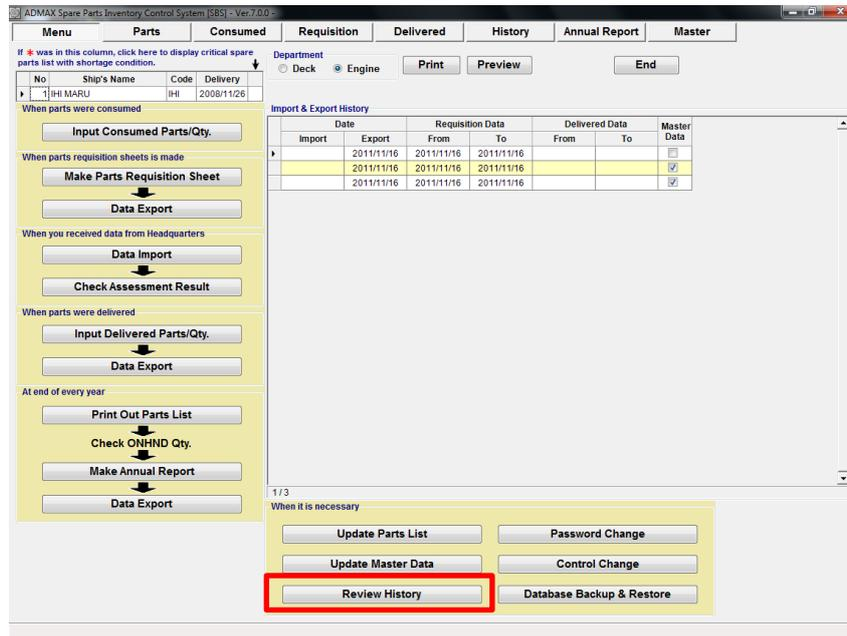

Fig 9.1 Menu
1. On the “Menu Screen”(Fig.9-1), select [Review History].